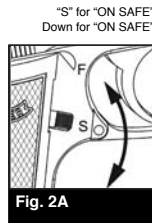

Fig. 2A
- Push the safety down until it points at the "S" and covers the red dot. (Fig. 2A) The safety is not "ON SAFE" unless it is pushed all the way down and the RED dot is NOT showing.